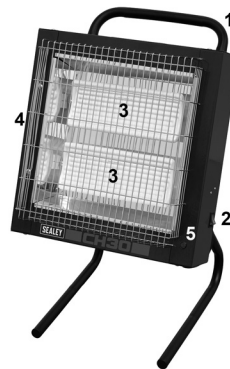

fig.1
4.1. REFER TO FIG.1 FOR OPERATION